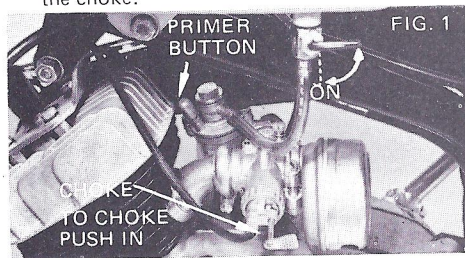

FIG. 1
2. Turn the fuel cock lever to the "ON" position (Figure 1).
3. Choke the engine and depress primer button (Figure 1).
2. Turn fuel cock lever to the "ON" position (Figure 1).